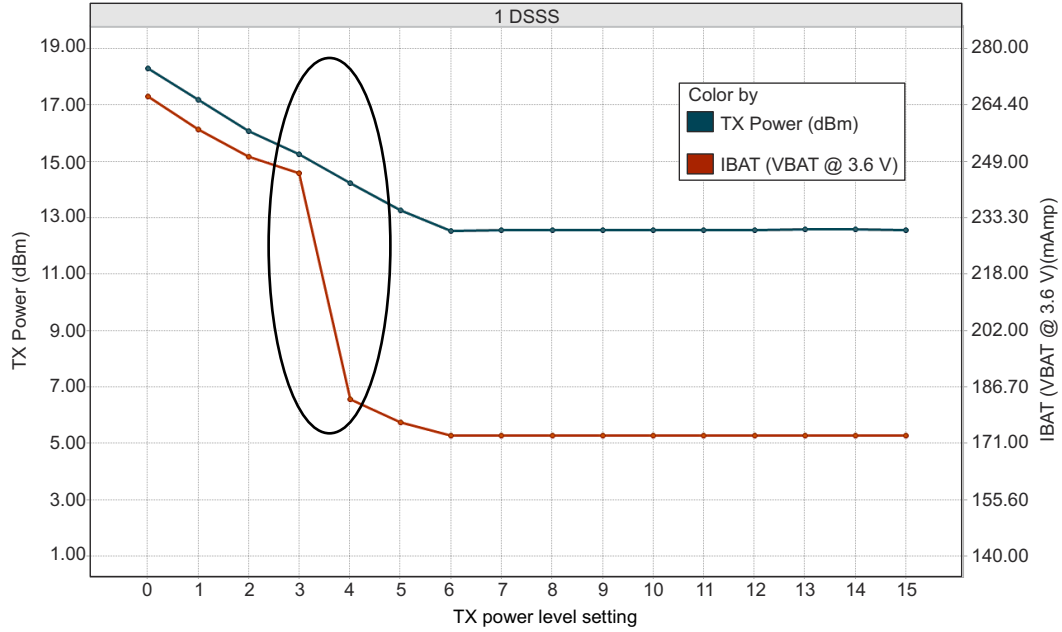
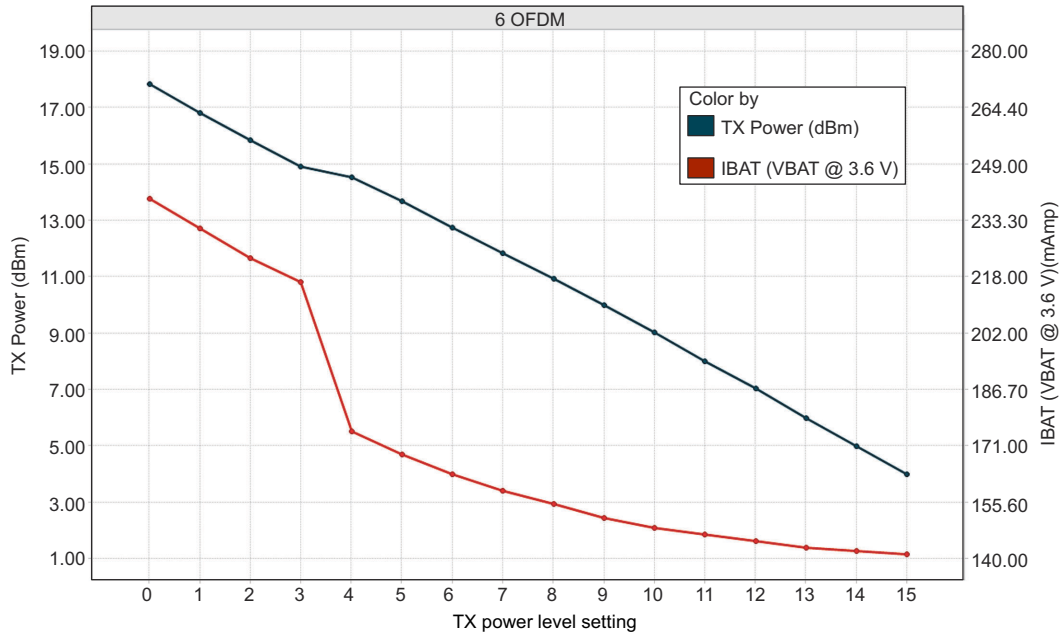
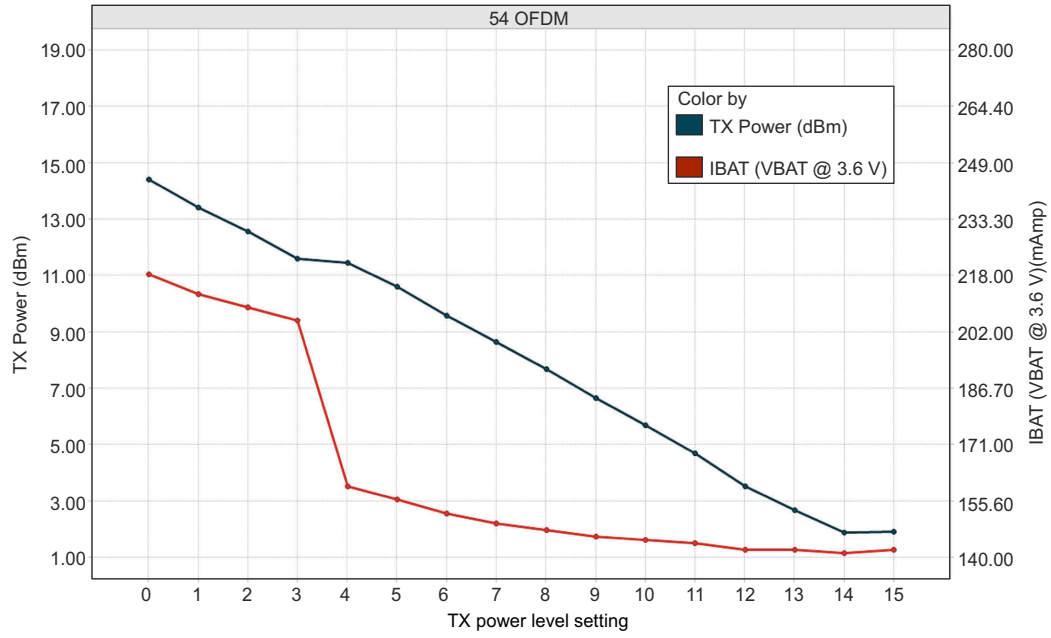

图 7-1. TX Power and IBAT vs TX Power Level Settings (1 DSSS)
图 7-2. TX Power and IBAT vs TX Power Level Settings (6 OFDM)
图 7-3. TX Power and IBAT vs TX Power Level Settings (54 OFDM)
- (1) TX power level = 0 implies maximum power (see 图 7-1, 图 7-2, and 图 7-3). TX power level = 4 implies output power backed off approximately 4dB.
- (2) The CC3130 system is a constant power-source system. The active current numbers scale based on the VBAT voltage supplied.
- (3) DTIM = 1.
- (4) The complete calibration can take up to 17mJ of energy from the battery over a time of 24ms. In default mode, calibration is performed sparingly and typically occurs when re-enabling the NWP and when the temperature has changed by more than 20°C. There are two additional calibration modes that may be used to reduce or completely eliminate the calibration event. For further details, see CC3x20, CC3x35 SimpleLink™ Wi-Fi® and Internet of Things Network Processor Programmer's Guide.
- (5) The RX current is measured with a 1Mbps throughput rate.
图 7-1, 图 7-2, and 图 7-3 show TX power and IBAT versus TX power level settings for the CC3130 device at modulations of 1 DSSS, 6 OFDM, and 54 OFDM, respectively.
In 图 7-1, the area enclosed in the circle represents a significant reduction in current during the transition from TX power level 3 to level 4. In the case of lower range requirements (14dBm output power), TI recommends using TX power level 4 to reduce the current.